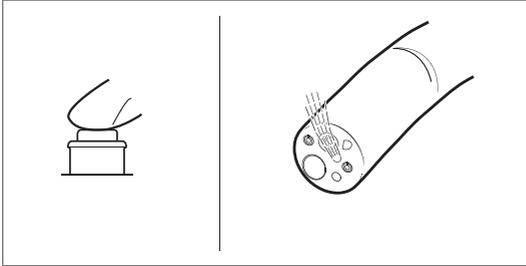

Figure 3.9
- Remove the distal end of the fiberscope from the water and press down the Air/Water feeding valve. Check whether water comes out of the distal end of fiberscope (Figure 3.9).